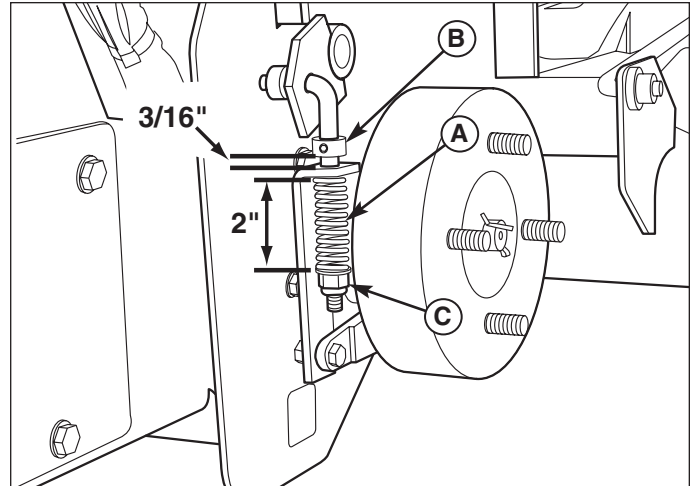

Figure 23. Parking Brake Adjustment
3. Check the brake spring (A, Figure 23) length (both wheels). With the brake engaged the compressed spring length should be 2" (5 cm). If not, adjust the locknut (C, Figure 23) to achieve the compressed spring length of 2" (5 cm).
4. After achieving the correct spring compression, check the set collar gap (B, Figure 23). With the parking brake engaged, the set collar gap should be 3/16" (5 mm). If not, loosen the set collar screw and move the collar to the correct position.